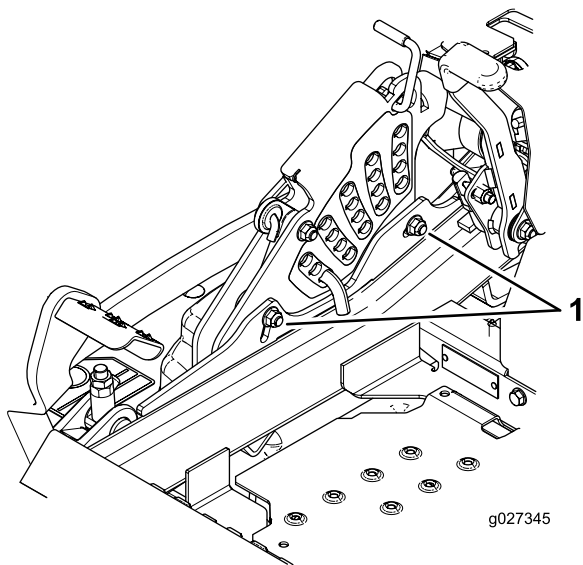

Figure 89
- To adjust the single-point system, loosen the 2 bolts at the bottom of the height-of-cut plate (Figure 89).